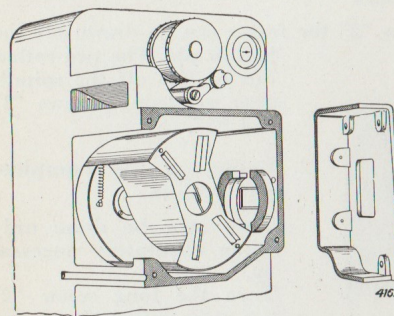

Fig. 9
§ 10. **DRUM SHUTTER** (figs 9 and 10; code number 22 413 65)
1. **Description** (fig. 9)